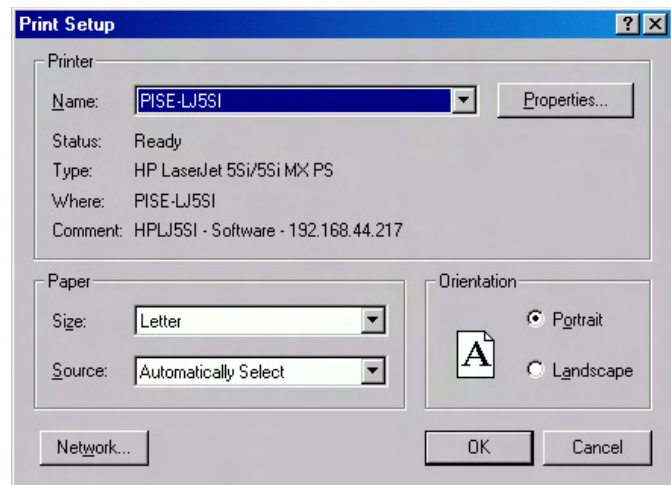

Figure 166. Print Setup dialog box
1. Open the file you want to print. Make sure that window is the active one. From the File menu, open the Print Setup dialog box (Figure 166).